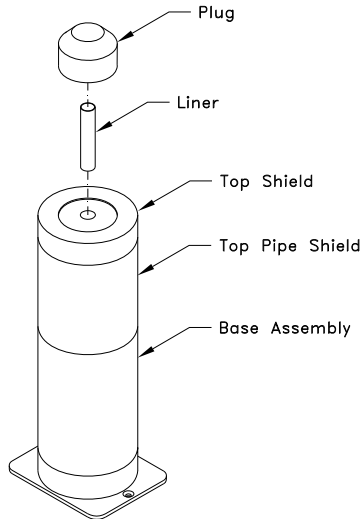

Figure 4-1 Well Counter Assembly
**Note:** If an optional Well Counter is attached to the system, please verify that a Well Liner has been inserted into the Well before use (refer to Figure 4-1 Well Counter Assembly). This prevents contamination of the Well Detector if a spill or leak occurs.